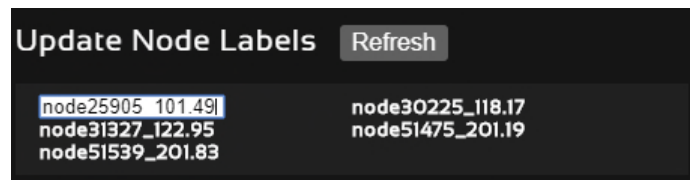

Figure 48 Custom Node Naming
- **Update Node Labels** – Naming each node in the network is as simple as double-clicking on the node name and typing in a new name in the update node label section of the control panel as shown in **Figure 48 Custom Node Naming**. Once this is done, the user will need to hit enter to keep the node name. Otherwise it will change back to what it was. This feature enables quick identification of nodes in the field and is especially useful in mission critical situations with many mobile assets. The user can click on the ‘Save Labels in Flash’ button to store the node names to the radio’s flash memory. This will store the names on the radio even after the radio is powered off. The saved labels can also be cleared back to the defaults by clicking ‘Clear Labels in Flash’. The node labels set in one radio can also be broadcasted to other radios in the network by clicking the ‘Broadcast Node Labels’ button.